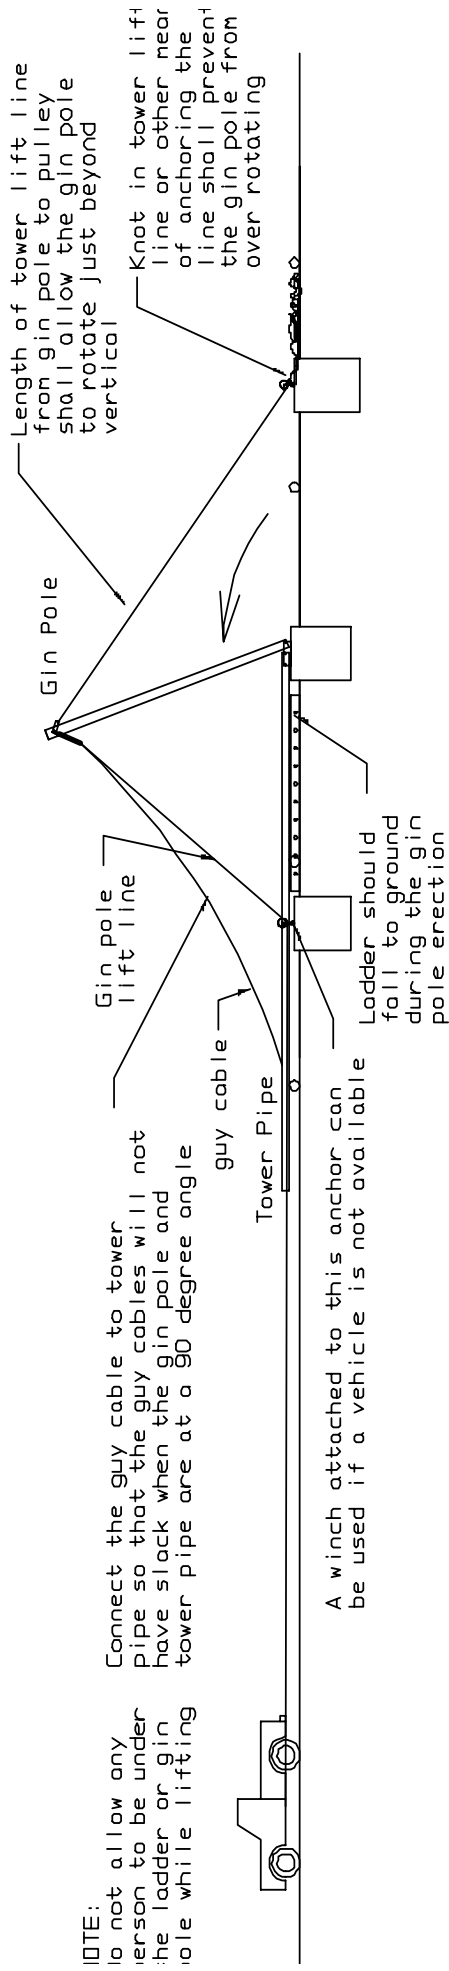

Figure 11
6. Slowly begin to pull on the gin pole lift line while a second person observes this procedure from a safe distance. Immediately stop this procedure if the ladder slips or if anything else does not seem right. Pay attention to the tension in the side guy cables on the gin pole while it is being raised. Stop if the guy cables either become excessively taut or slack. The ladder should fall to the ground after the gin pole is 10 feet off the ground. Continue to lift the gin pole until it just passes the vertical point. Gravity should then naturally move it a few degrees past center until the tower lift line holds it in place (see Figure 11).
- Stop the vehicle and check that the gin pole and tower pipe are at a 90° angle (see Figure 12). The tension in the upper and lower cables should be equal. If the two pipes are not at a 90° angle or if the cables do not have equalized tension, then lower the gin pole just enough to be able to make adjustments in the cable length on the tower pipe (see Figure 11 and 12).